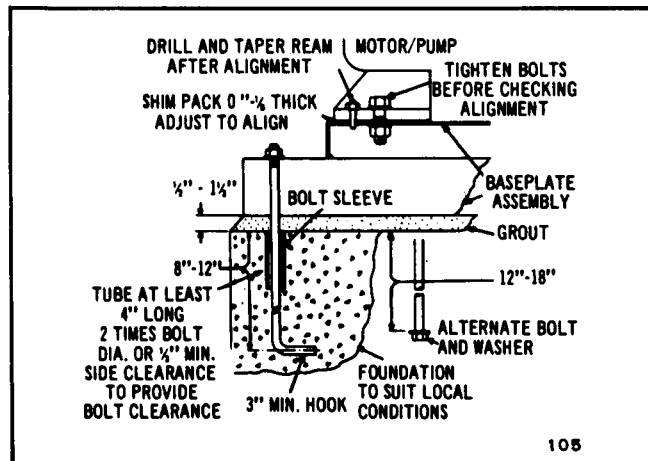
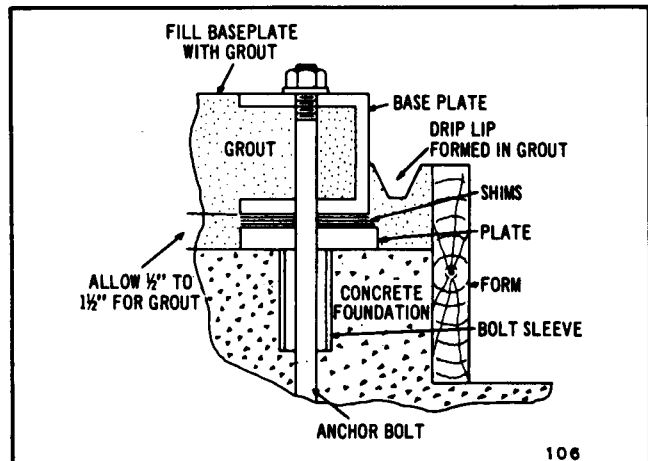

Figure 2. Foundation
Figure 3. Setting Baseplate and Grouting
- The foundation should be poured without interruption to within 1/2 to 1-1/2 inch of the finished height. The top surface of the foundation should be well scored and grooved before the concrete sets; this provides a bonding surface for the grout. Foundation bolts should be set in concrete as shown in Figure 3. A 4-inch long tube around the bolts at the top of the concrete will allow some flexibility in bolt alignment to match the holes in the baseplate. Figure 2 also shows a bolt and large washer as an alternate method of anchoring foundation bolts. Allow enough bolt length for grout, shims, lower baseplate flange, nuts and washers. The foundation should be allowed to cure for several days before the baseplate is shimmed and grouted.
- b. The foundation surface will support the pump and driver with shims and plates under the baseplate at the foundation bolts. The foundation should be smooth and level at these points to distribute the load evenly on the shims. A thin metal plate leveled in a puddle of mortar or grout is often the easiest way to achieve this level and smooth surface. Use thick shims wherever possible to reduce the number of shims used. (See Figure 3.)